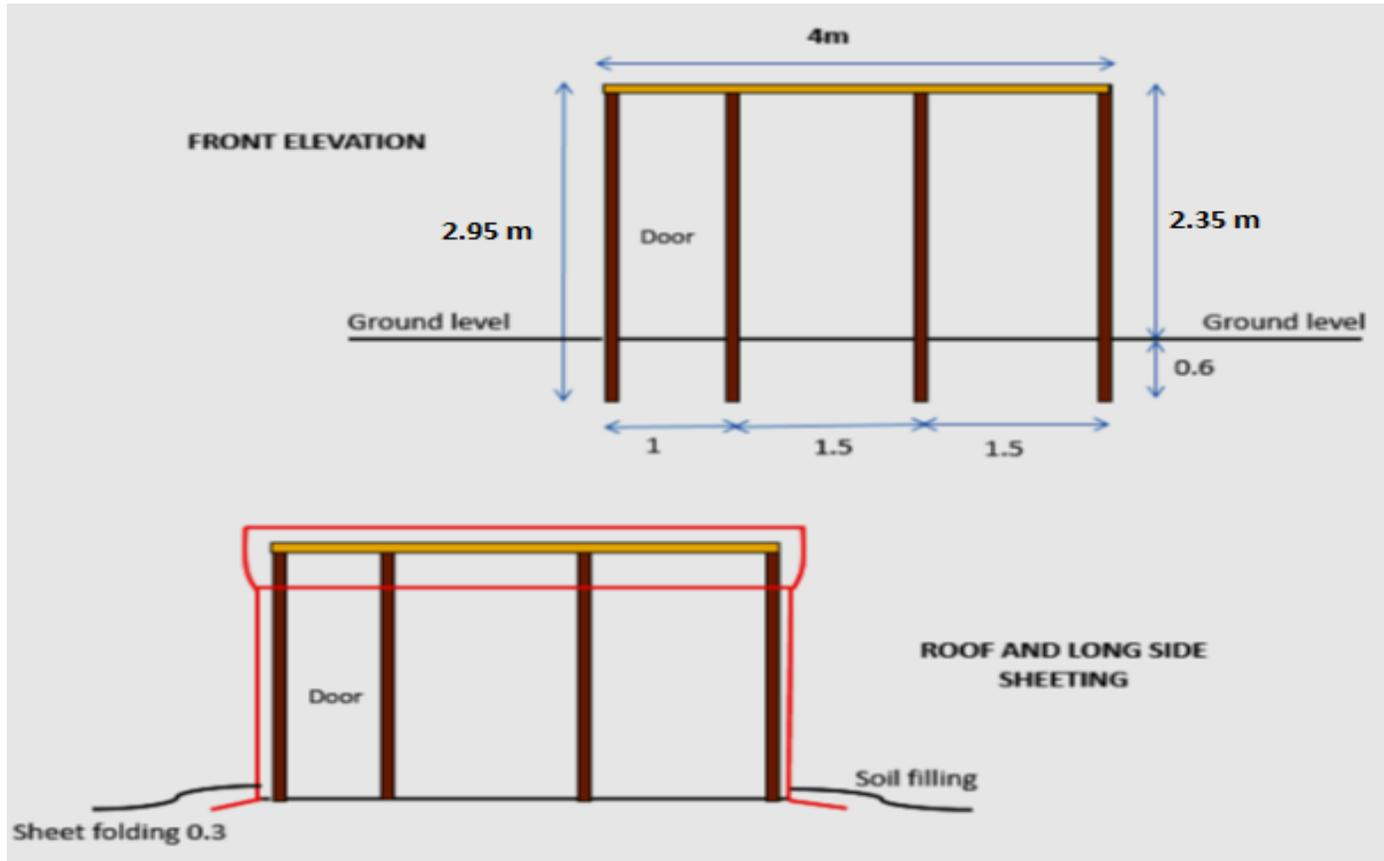

Figure 9: Affix a 4m timber to four 2.95m timbers so the thinnest side of the 4m timber will face up when the assembly is stood upright, as shown.
- b. Connect the 4 x 2.95 m timbers for the front upright structure from step 2.a to a 4m roof timber from step 2.c so that the tall edge of the 4m timber will be vertical when erected. When the structure is erected, the 4m timber should be at the front of the building, not on top of the 2.95m timbers. Note the position of the door. (Refer to Figure 9.)